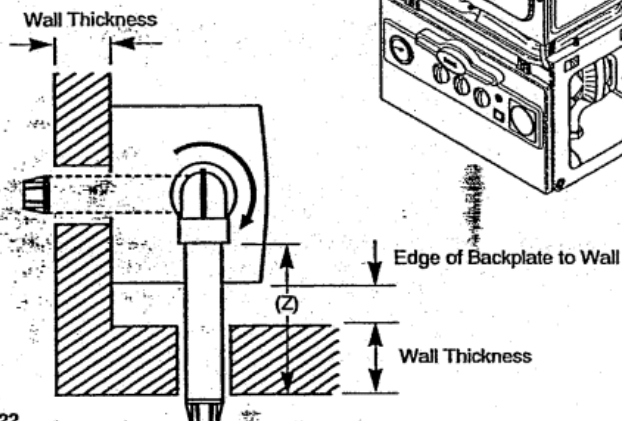

Fig. 22
4. For rear exit measure the wall thickness (Fig. 22 & 23) and to this dimension add 100mm. This dimension to be known as (X).
i.e. (X) = wall thickness + 100
7. For side exit- measure the distance from the edge of the backplate to the inner face of the wall (Fig. 22) and to this dimension add the wall thickness + 150mm. This dimension to be known as (Z).
i.e. (Z) = backplate to wall + wall thickness + 150